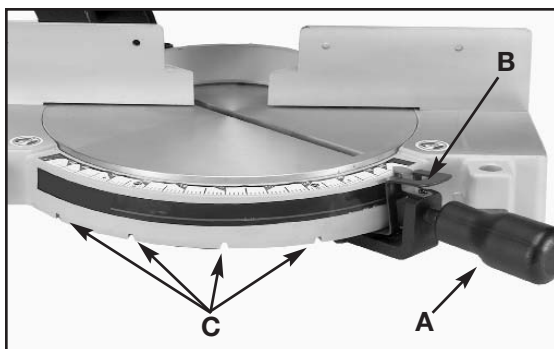

Fig. 12
Your miter saw will cut any angle from a straight 90 degree cut to 47 degrees, right and left. Loosen lock handle (A) Fig. 12 one or two turns, depress index lever (B) and move the control arm to the desired angle. TIGHTEN LOCK HANDLE (A).
The miter saw is equipped with positive stops at the 0, 22-1/2, and 45 degree, right and left positions. Loosen lock handle (A) Fig. 12, and move the control arm until the bottom of the index lever (B) engages into one of the positive stops, four of which are shown at (C). TIGHTEN LOCK HANDLE (A). To disengage the positive stop, depress index lever (B).
**IMPORTANT:** Always tighten the lock handle (A) Fig. 12 before cutting.